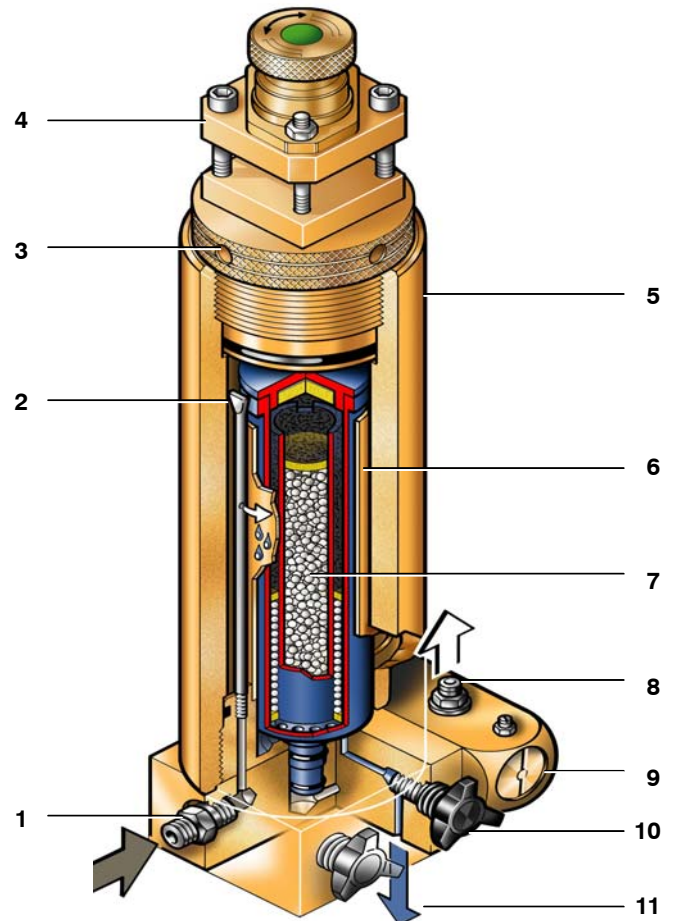

Abb. 29 Filter system P21
The air leaving the final stage is cooled in the after-cooler to approx. 10 - 15 °C (18 - 27 °F) above ambient temperature and then enters filter system **P21** with **TRIPLEX** long-life cartridge (Abb. 29).
- Remove filter head (3, Abb. 29).